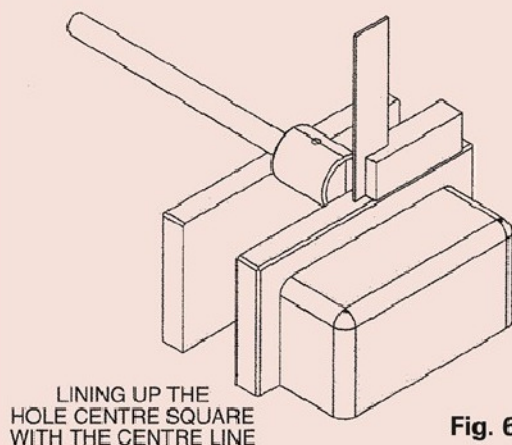

Fig. 6
It now remains to assemble Item 4 on to the ends of the screwed rod. Wash out the tapped hole with paraffin, or any other suitable cleaning agent removing any cutting oil left behind. Repeat for the end of the screwed rod, and Loctite both parts together. When cured the two parts can be drilled and reamed through for the Tommy bar, which will finally secure the items together. **Fig 6** shows one set up for drilling the Tommy- bar hole. You will first have to mark off the hole position, this is best done on the bench. First scribe a line along the length of item 4, and one at 12mm from one end centre punch the position, and then scribe a line on the end of the bar in the centre, to line up with the line on top, this can be done with the aid of a centre square. This centre line will